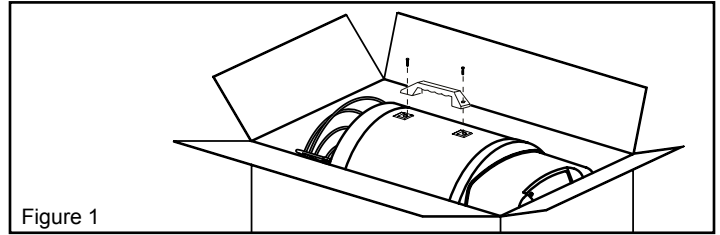

Figure 1
1. Attach handle by lining up holes of handle with the holes in the upper shell of heater (See fig. 1).